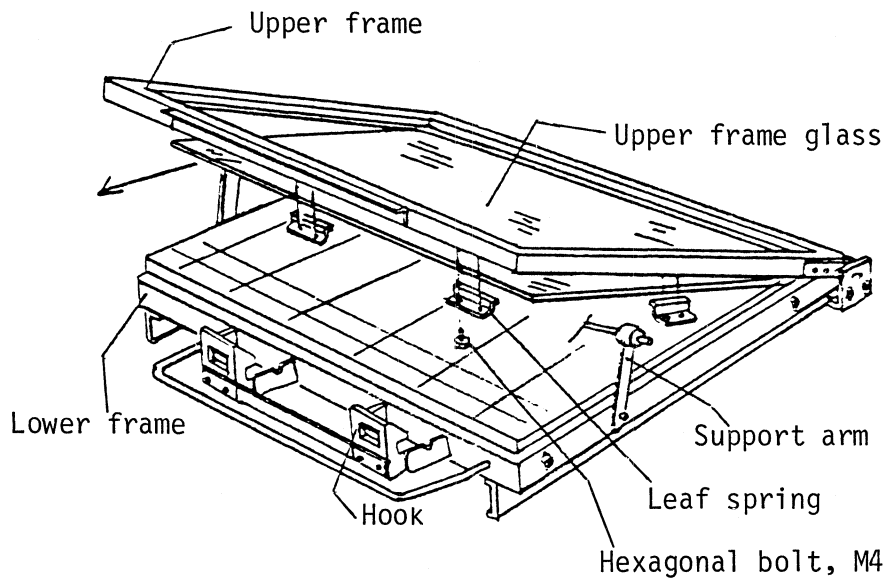

Fig.26
- (1) Remove the middle rear cover.
- (2) Loosen the three leaf springs located inward on the side opposite to the operator with a spanner for M4. (Never remove the springs.)
- (3) Open the control panel cover and draw out the original holder fully, holding the handle.
- (4) Release the hook and let one person lift the upper frame to above the specified position in which it is held by the support arm.
- (5) Remove the five remaining leaf springs holding the upper glass by hand.
- (6) Pull the glass in the direction of arrow shown in Fig.26 with care. The glass may stick to the rubber skirt of the upper frame.